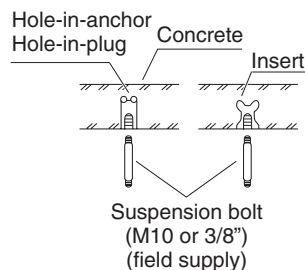

Fig. 3-8
- Insert suspension bolts as shown in the diagram. (Fig. 3-8) or
- (2) Screw in the suspension bolts allowing them to protrude from the ceiling as shown in Fig. 3-8. (Cut the ceiling material, if necessary.)